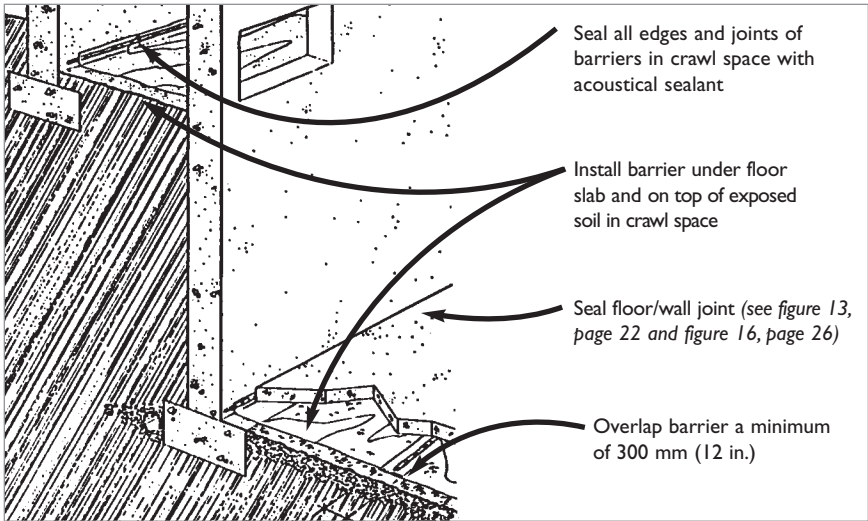

Figure 17: Polyethylene barrier for crawl spaces and basement floor slabs
- **Exposed soil** – Exposed soil in crawl spaces can be covered by a barrier with sealed edges and joints (*see* figure 17, page 27). If there are major gaps in the basement floor slab (e.g., cold storage room), concrete should be poured to cover any exposed soil.
- Install a barrier of at least 0.15 mm (6 mil) polyethylene under the basement floor slab or on top of exposed soil in crawl spaces (*see* figure 17, page 27). Joints in the polyethylene should be overlapped no less than 300 mm (12 in.). In crawlspaces, seal the joints and edges with acoustical sealant. Look for products that are a more durable alternative to regular polyethylene, such as cross-laminated polyethylene.